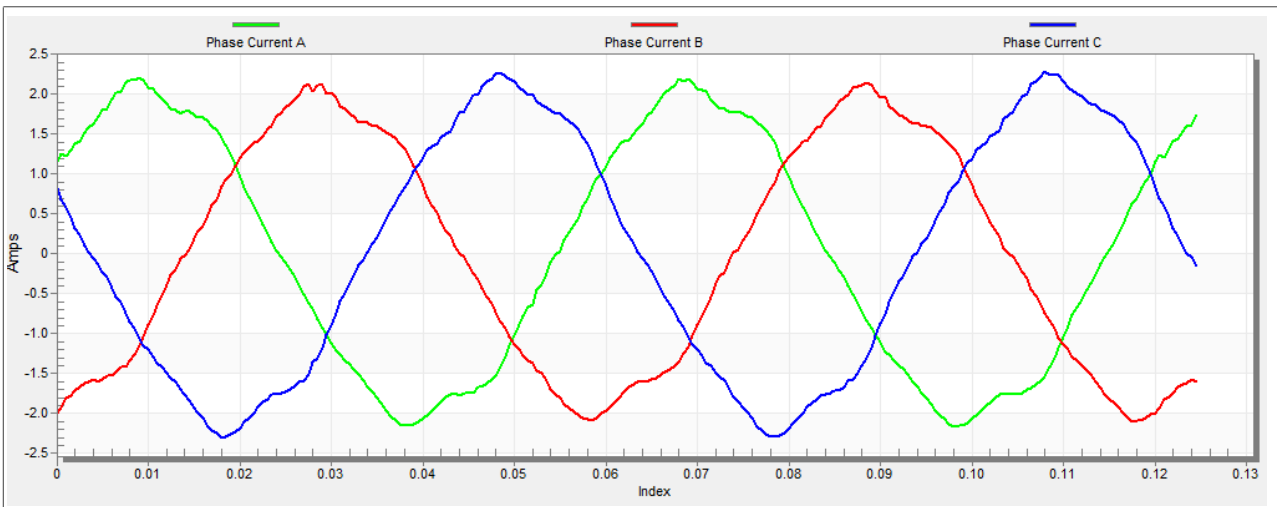

Figure 23. Phase currents
5. The optimal ratio for the V/Hz profile can be found by changing the V/Hz factor directly using the “M1 V/Hz factor” variable. The shape of the motor currents should be close to a sinusoidal shape (Figure 23). Use the following equation for calculation V/Hz factor: